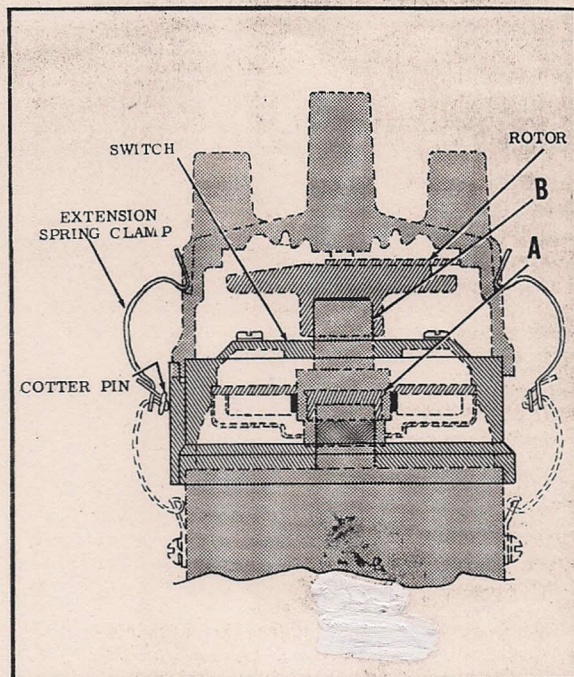

FIG. 2
- a. Turn rotor shaft, making sure indexing flats are aligned, then seat all the way down on distributor cam shaft, see A, Figure 2.
3. Install rotor on switch, align and seat properly on rotor shaft, see B, Figure 2.
- b. Lock distributor cap with extended spring clamps (Figure 2).